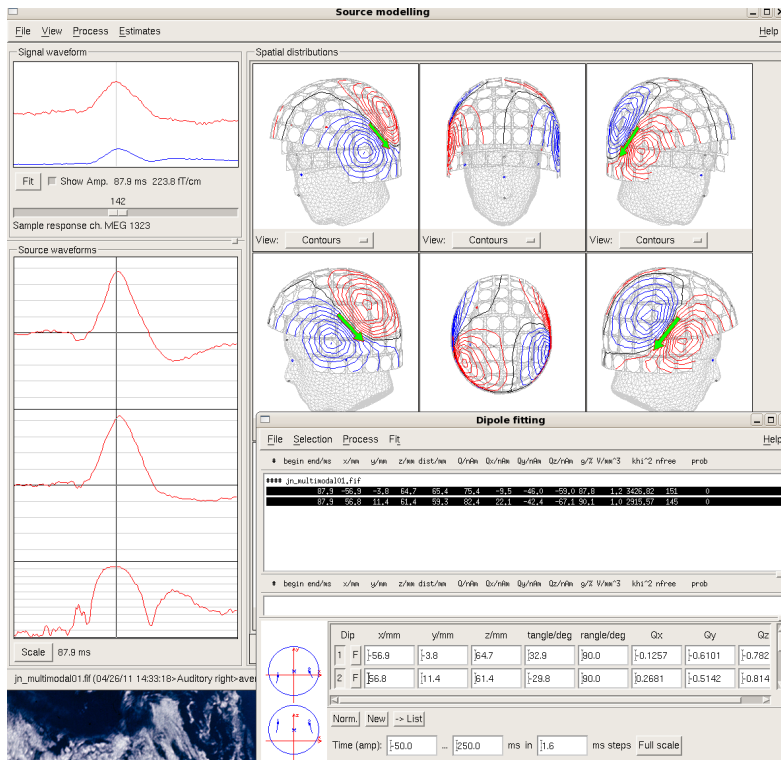

Figure 44: A two-dipole model in Xfit.
- Activate **Row 1** in the multidipole dialog (Figure 44, bottom window of the Dipole fitting window).
- Activate **Row 2** and add the second dipole (Figure 44).
Review the **Source waveforms**: The dipole source waveforms appear on the left frame of the Source modelling window, presenting the amplitudes of the dipoles as a function of time (Figure 44). The time scale is the same as in the signal waveform graph on top of it. The bottom curve represents the goodness of fit and tells you how many percent of your data can be explained with your dipole model.